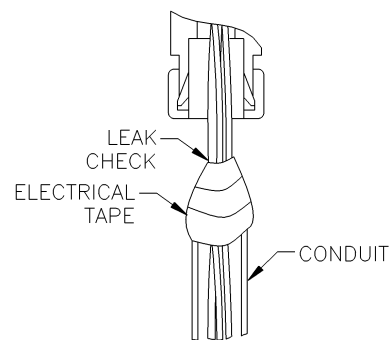

Figure 9
- Carefully raise Junction Box to expose the Motor Leads and the top of the conduit. Take care not to damage Motor Leads on the DPS pressure lines. Seal off Motor Leads to conduit with adhesive tape. (See Figure 9)